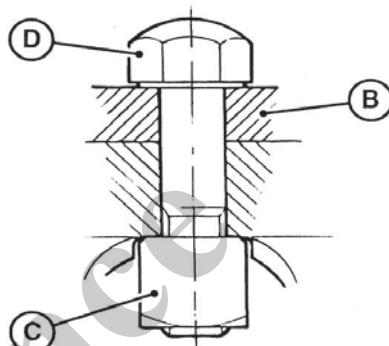

Fig. 28 Cross section of the base plate bolt
The tightening torque for the base plate bolts must show a value of 747 Nm to 877 Nm. Check the tightening torque using a torque wrench. If one or more base plates (B) in Fig. 28 must be replaced together with the corresponding bolts (C) and (D) in Fig. 28, then the screws must be thoroughly lubricated and tightened to the values stated in column "lubricated"